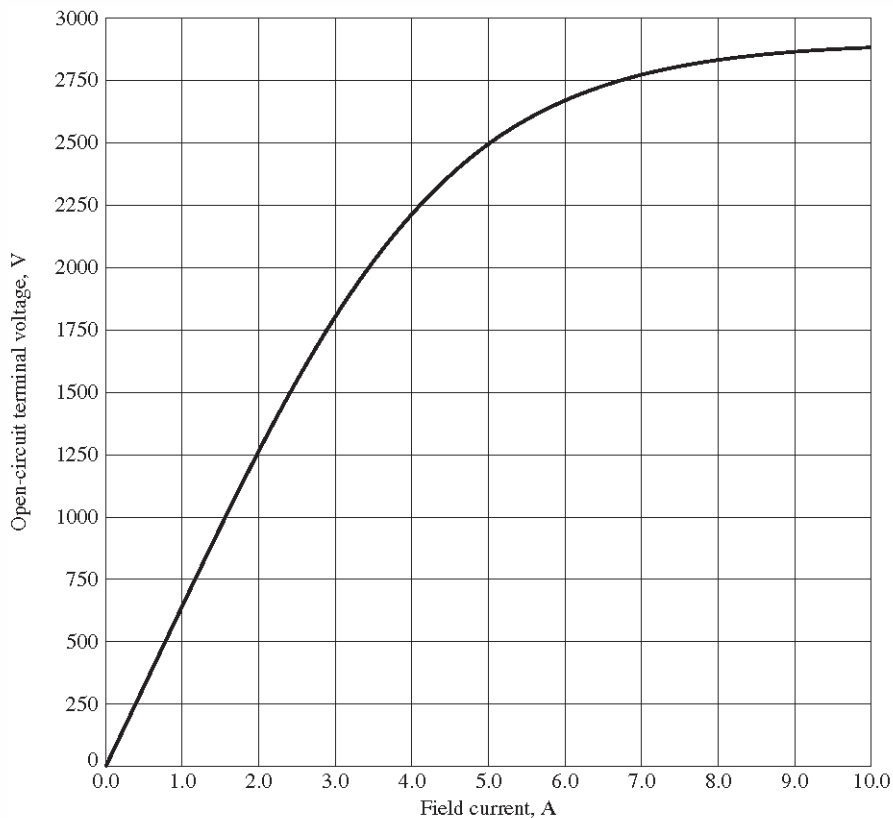

FIGURE P5-1
- 5-4. A 2300-V 1000-hp 0.8-PF leading 60-Hz two-pole Y-connected synchronous motor has a synchronous reactance of  $2.5 \Omega$  and an armature resistance of  $0.3 \Omega$ . At 60 Hz, its friction and windage losses are 30 kW, and its core losses are 20 kW. The field circuit has a dc voltage of 200 V, and the maximum  $I_F$  is 10 A. The open-circuit characteristic of this motor is shown in Figure P5-1. Answer the following questions about the motor, assuming that it is being supplied by an infinite bus.
- 5-5. Plot the V-curves ( $I_A$  versus  $I_F$ ) for the synchronous motor of Problem 5-4 at no-load, half-load, and full-load conditions. (Note that an electronic version of the open-circuit characteristics in Figure P5-1 is available at the book's Web site. It may simplify the calculations required by this problem.)